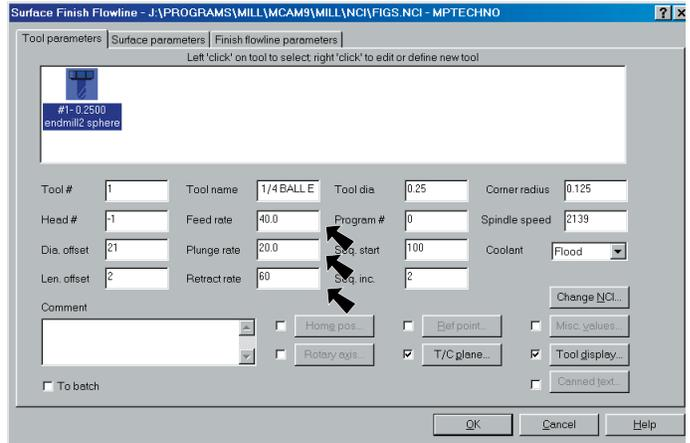

Fig. 10
Step 9. Set the Feed Rate: **40** **Fig. 10**